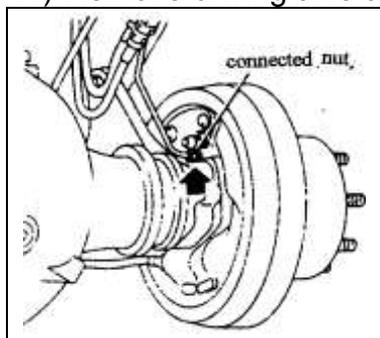

Fig.3-1
- 4) Disconnect brake nuts from left and right cylinders.(see fig.3-1).